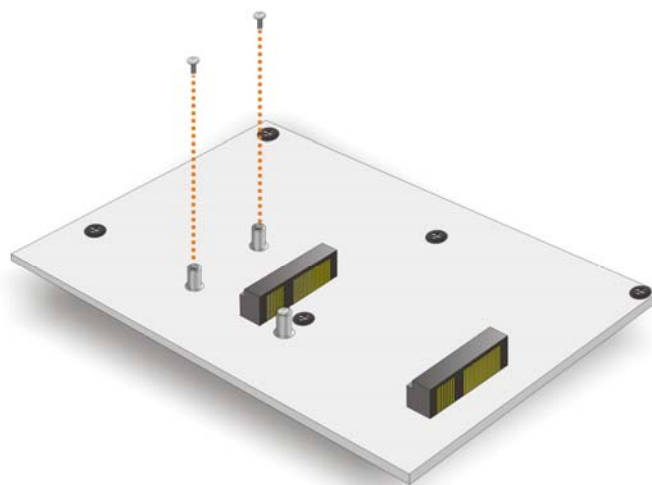

Figure 4-13: Remove the Retention Screws for the Half-size PCIe Mini Card
Step 2: **Remove the retention screws.** Remove the two retention screws secured on the motherboard as shown in **Figure 4-13**.